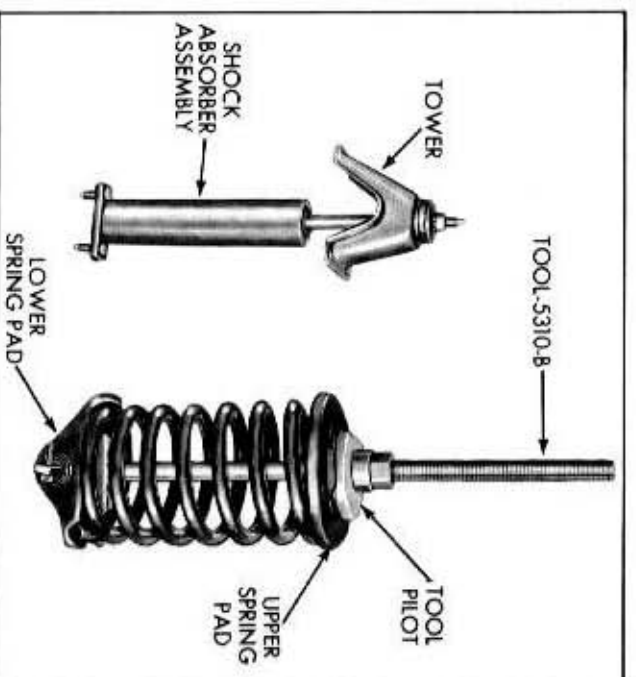

Fig. 3-18—Tool Assembled to Spring and Plate—(60C-418)
3. Guide the spring into position. The spring lower end is installed on the outside of the spring plate (pad). See figure 3-18. Install the spring lower plate retaining nuts. Torque the nuts to 12-18 lbs. ft.